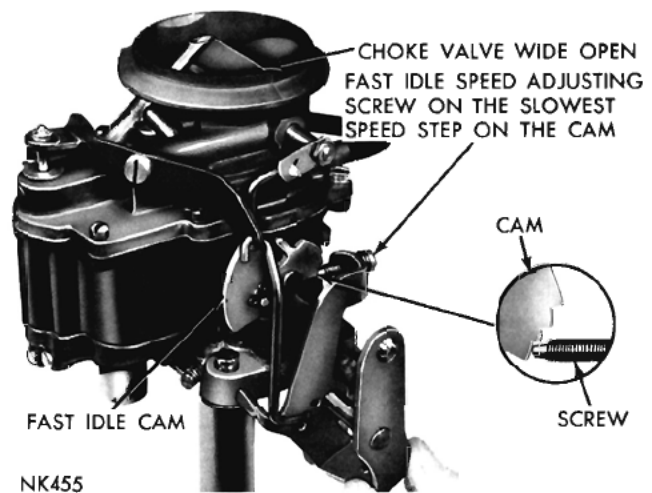

Fig. 24—Fast Idle Speed (on the Vehicle)
(1) With the engine running and the transmission in the neutral position, open the throttle slightly.
(2) Close the choke valve about 20 degrees then allow the throttle to close. Return the choke valve to the open position.
(3) The fast idle speed adjusting screw should be contacting the slowest speed step on the fast idle cam, as shown in (Fig. 24).
(4) With the engine warmed-up to the normal operating temperature, turn the fast idle speed adjusting screw **in** or **out** to secure 700 r.p.m. **Reposition the cam and throttle after every screw adjustment, to apply normal throttle closing torque.**